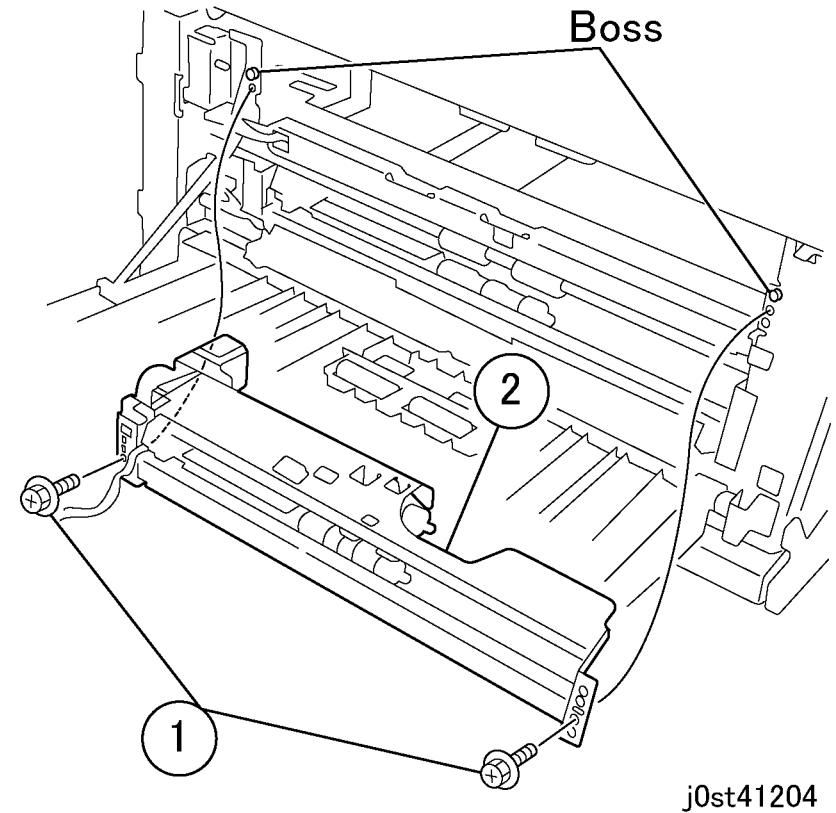

Figure 6 Removing the Tray 2 Feeder
8. Remove the Tray 2 Feeder. (Figure 6)